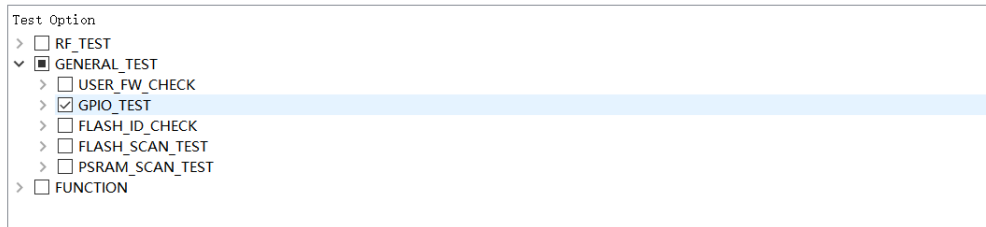

Figure 3-4. GPIO Conductivity Test
- **Configuration Interface:** As shown in Figure 3-4, you can enable this test in the **GENERAL\_TEST** sub-list on the **Test Flow** tab. For details, please refer to Appendix B.